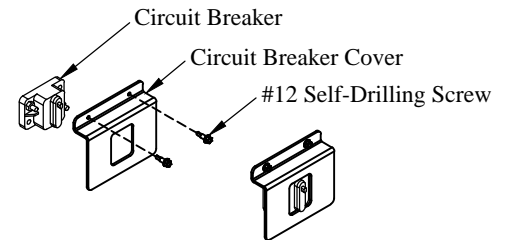

Figure 17: Circuit breaker cover.
- 16. Install** the plastic circuit breaker cover over the circuit breaker using the supplied #12 self-drilling screws (Figure 17).